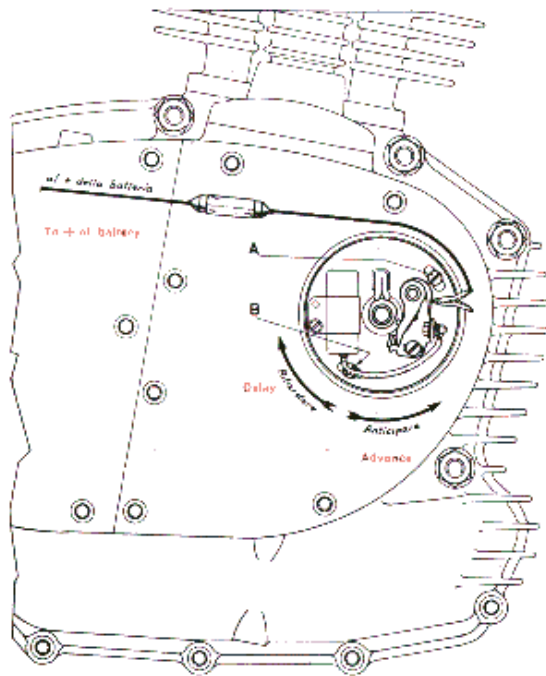

Fig. 2
- 5th. - To the spring of the mobile part of the contact breaker connect a 6V. - 3W. lamp in series with the + of the battery (Fig. 2). The lamp should light up.